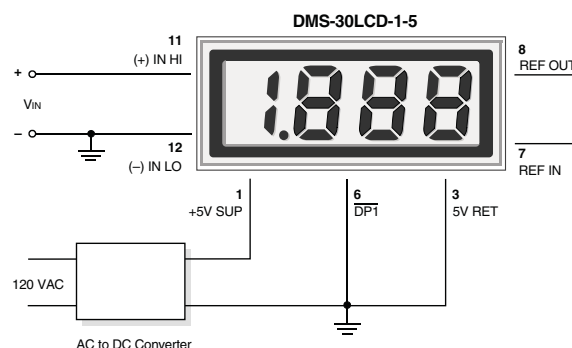

Figure 2. Single-Ended Input Configuration (5V-Powered Models)
1. **Single-Ended Input Configurations:** True single-ended measurements can only be made with 5V-powered meters. The circuit of Figure 2 avoids problems normally associated with ground-loop currents. Separate ground runs should be used for 5V RETURN (pin 3) and (-) INPUT LO (pin 12).